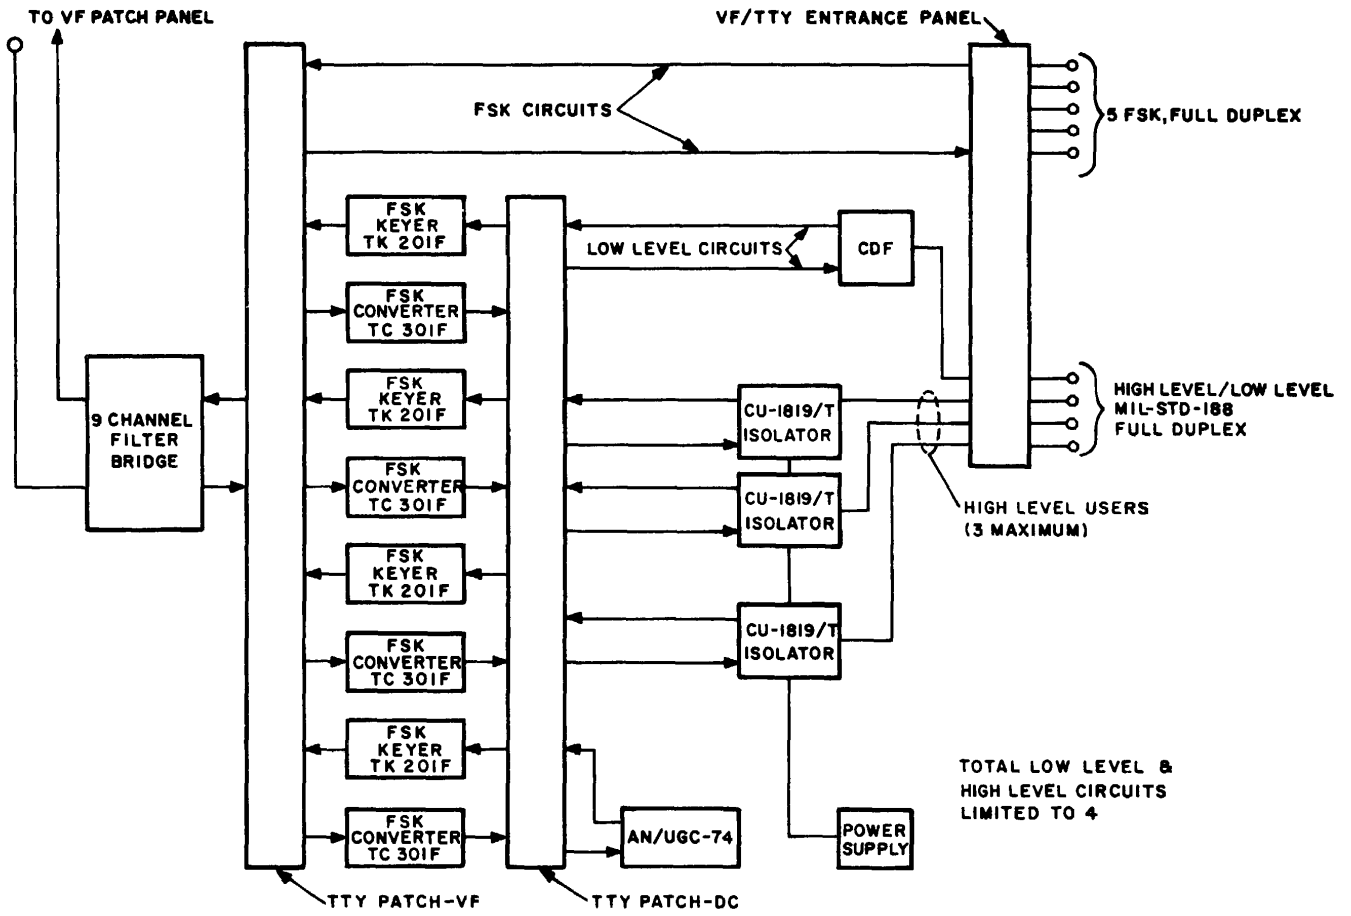

Figure 2-2. Teletype Processing System-Simplified Diagram.
a. The Teletype (TTY) Processing System's Simplified Diagram is shown in figure 2-2.